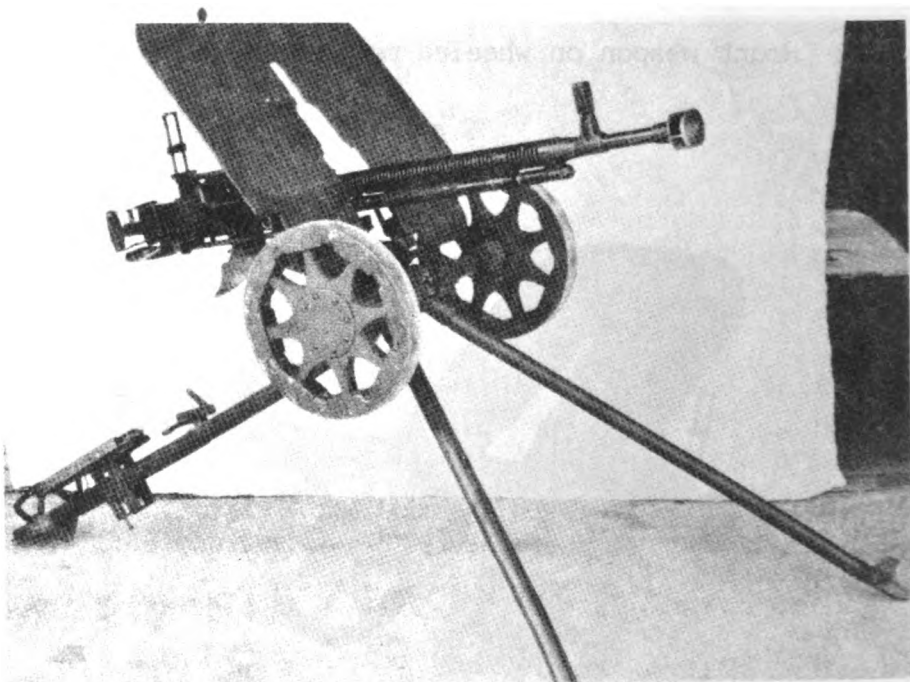

Figure 2
- b. Convert wheeled mount to tripod mount within 90 seconds. (See fig. 2.)